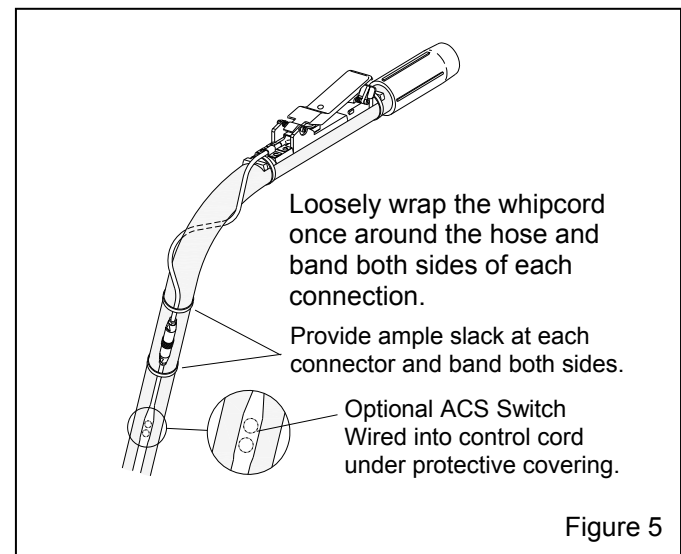

Figure 5
**2.2.2.1** Wrap the whipcord from the electric control handle loosely around the blast hose as shown in Figure 5, and then connect it to the control cord. The cord must have ample slack and be wrapped as described. Too little slack will cause excessive strain on the cord and may pull the wires out of the connectors or switch when the hose is curved or pulled.